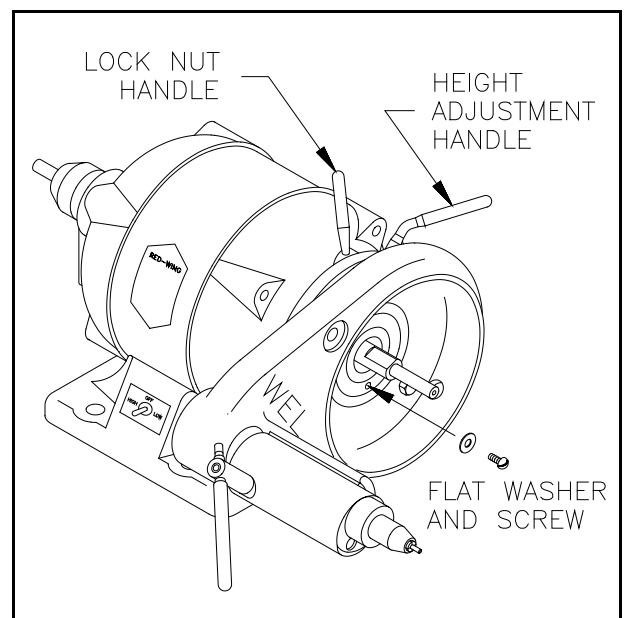

Figure 6. Attach the Bracket Assembly
- 4.1 Fit the installation template over the 1/2" shaft. Position the template so the mark for the hole is down (six o'clock). See Figure 6. Center punch at the mark then drill a 0.161" dia. hole at least 1/2" deep using a #20 high speed steel twist drill. Tap the hole for a 10-32 thread.